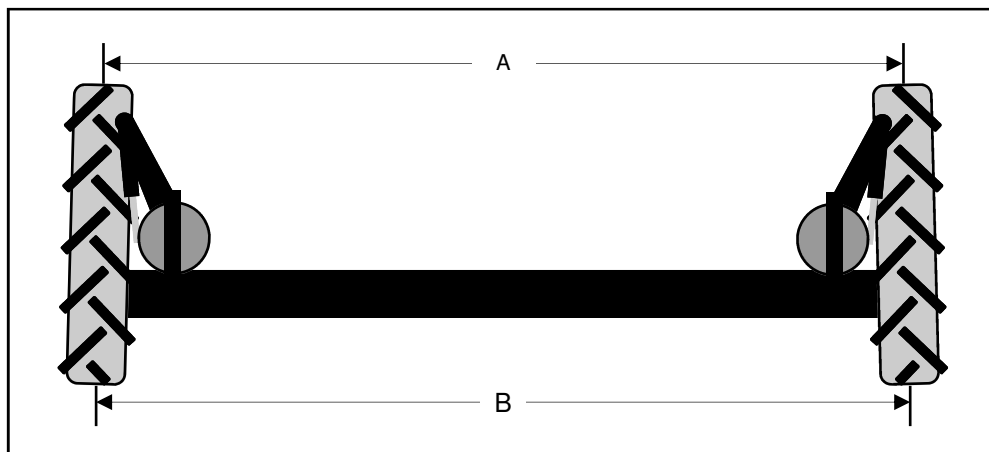

FIG 7.58
4. Move left and right tires evenly until difference in dimension "A" and "B" (fig. 7.58) are within specified range.